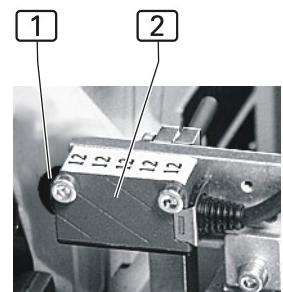

Fig. 9
1. **Fig. 9:** Ensure that the light beam of the photocell **[2]** is not interrupted by objects.